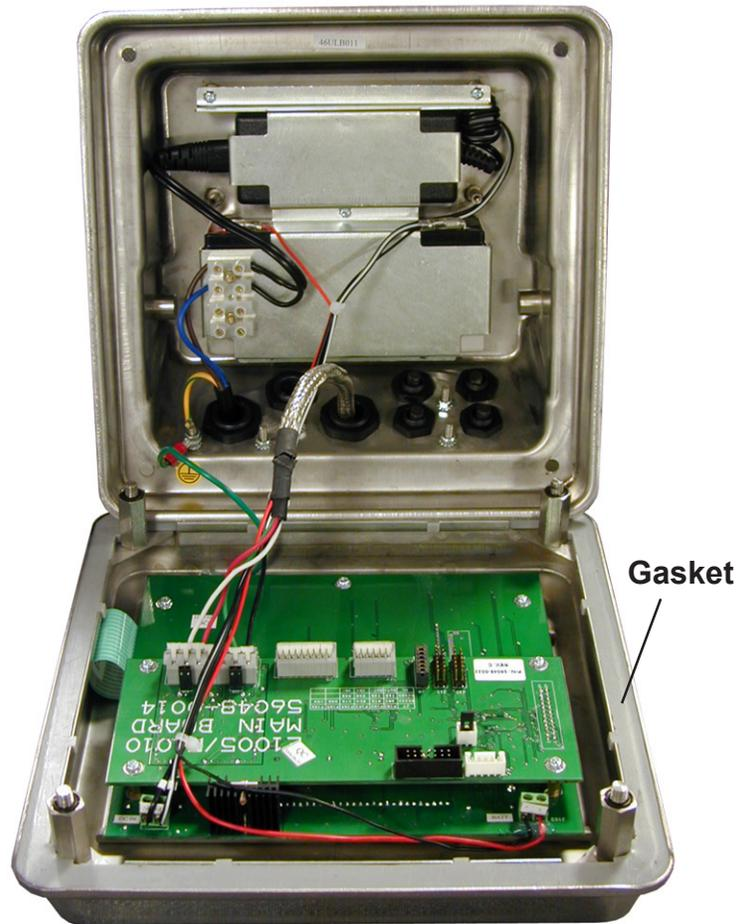

Figure 15
4. Disconnect all the cables to the PC boards. See Figure 15.
4. Replace the gasket, pointed out in Figure 15, if it is in need of replacement.